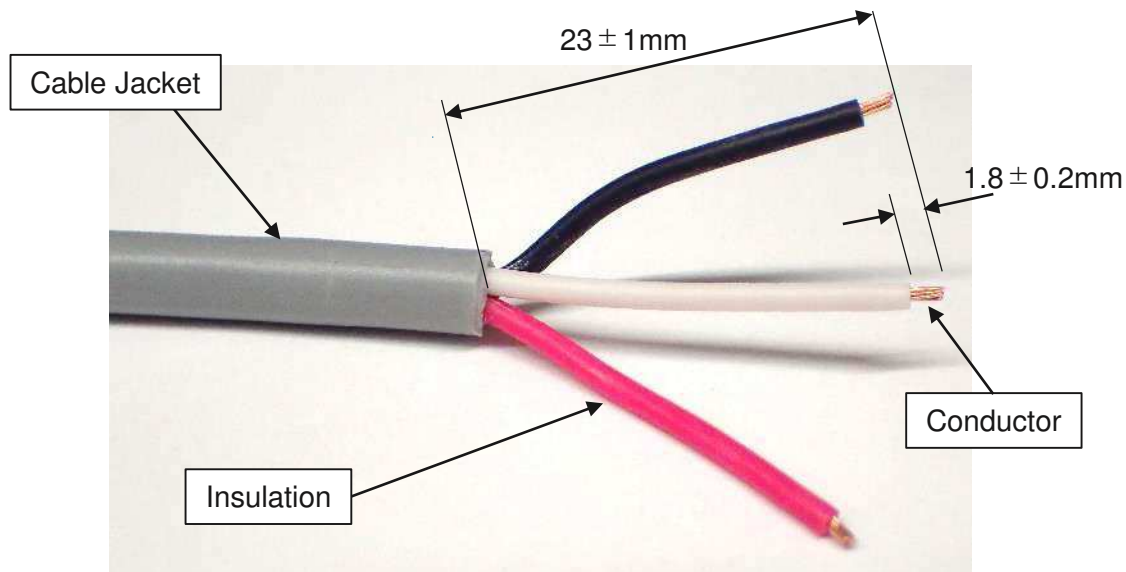

Fig.1
1) Remove the insulation of cable jacket and conductor as Fig. 1 shows.